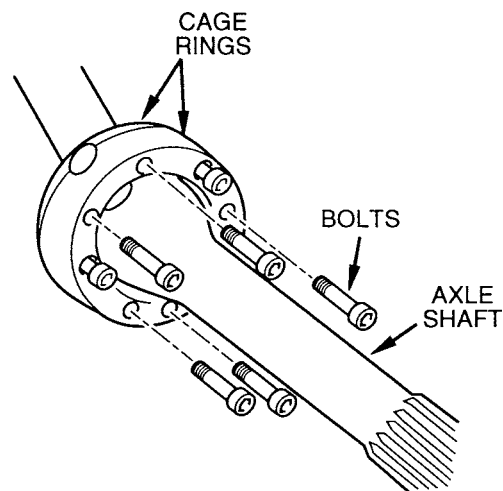

Figure 3 Separating Cage Rings
16. Remove eight bolts using an allen head wrench. (See Figure 3).
17. Separate shafts (20 and 22) by removing cage ring halves (21). Remove pin, if damaged.